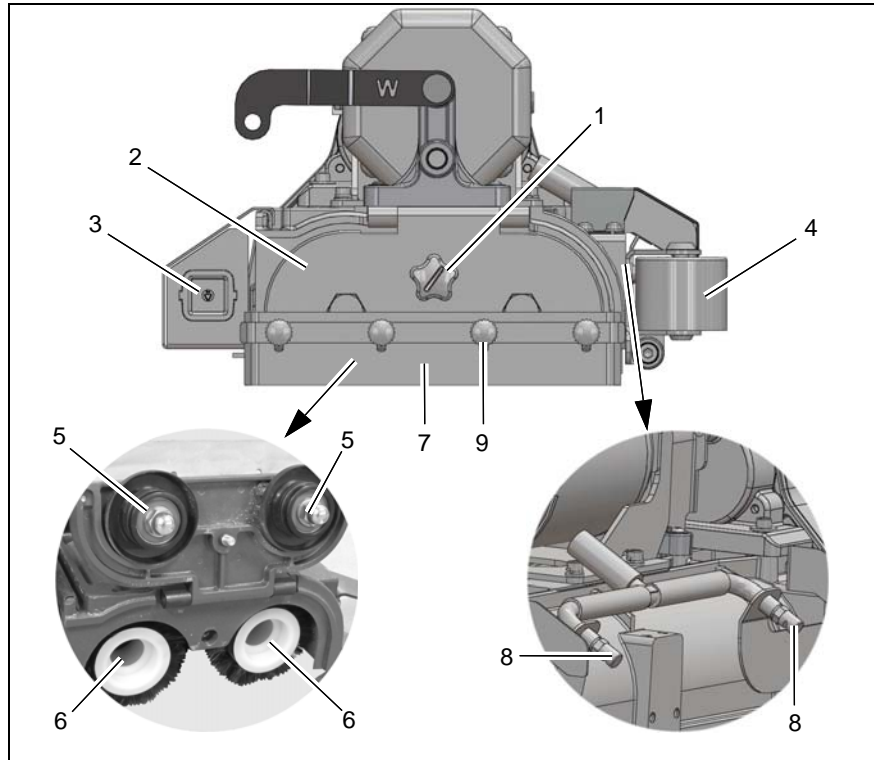

Fig.20
3. Loosen the slotted-head screw (Fig. 20/1) with a coin and pivot the cover (Fig. 20/2) upwards.
4. Remove the brushes (Fig. 20/6) from the brush head and clean them.
When installing the brushes, pay attention that they latch securely and properly in the catches (Fig. 20/5) provided.
4. Remove the brushes (Fig. 20/6) from the brush head.
2. Pivot the waste container (Fig. 20/3) down a little and pull it out of the brush head.
Check the sealing strips (Fig. 20/7) weekly and change them as necessary.
3. Loosen the knurled screws (Fig. 20/9) and remove the sealing strips with the tightening straps.
3. Check the spray jets (Fig. 20/8) for signs of dirt. After cleaning them, the spray jets must produce an even spraying pattern.
Check deflector rollers (Fig. 20/4) at weekly intervals and replace if required.